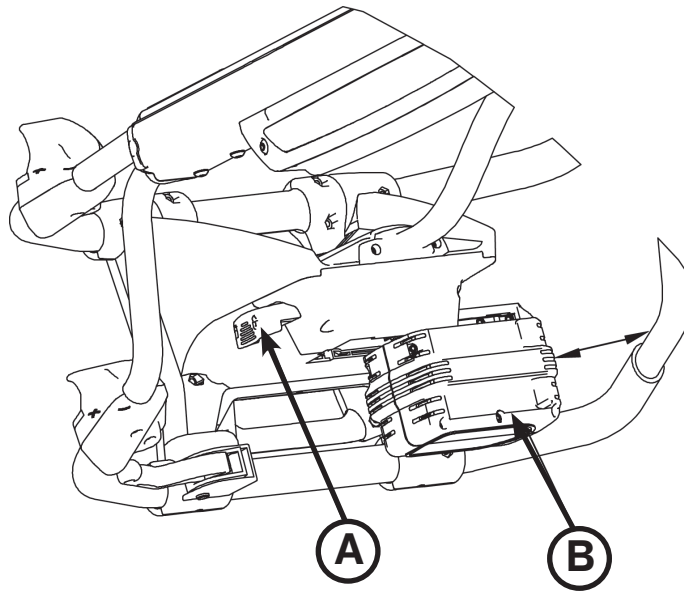

Figure 36: DeWALT® Battery Removal & Replacement
1. Press the red battery release button (A), located on the patient left side of the foot end control enclosure, to release the battery (B) from the cot as shown in Figure 36.